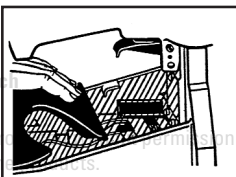

FIG 1
- A. Open the magazine: Press cover slightly to unlatch from magazine and swing cover open (Fig 1).